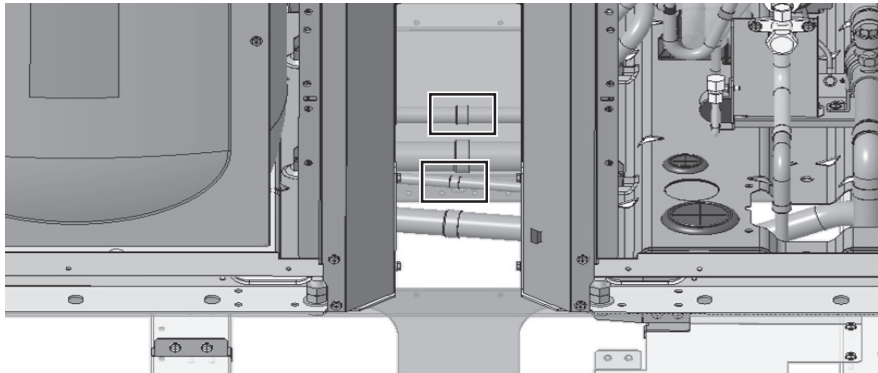

Fig. 8
(8) Braze the joints of the upper piping ASSYs (liquid pipe). (Two areas for brazing: Fig. 8)